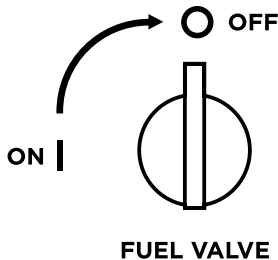

Figure 11 - Fuel Shut Off - OFF
4. Turn gasoline fuel shut off valve to the **OFF** position (see Figure 11 below).